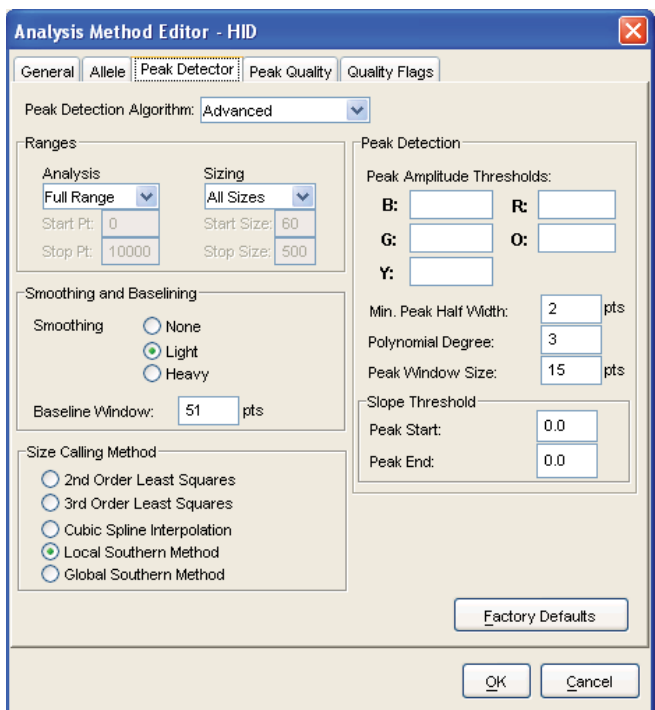

Figure 19. The GeneMapper® ID ‘Peak Detector’ tab.
10. Select the ‘Peak Detector’ tab (Figure 19). You will need to optimize these settings. In-house validation should be performed.
- Select the ‘Peak Detector’ tab (Figure 19). You will need to optimize these settings. In-house validation should be performed.